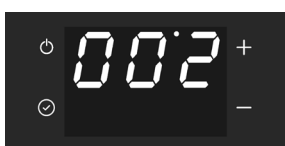

fig. 6 - Second screen
- Second screen: 00 (vedi fig. 6)